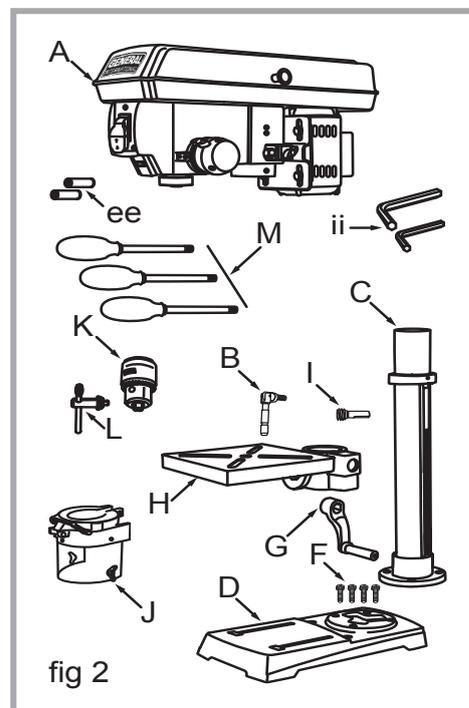
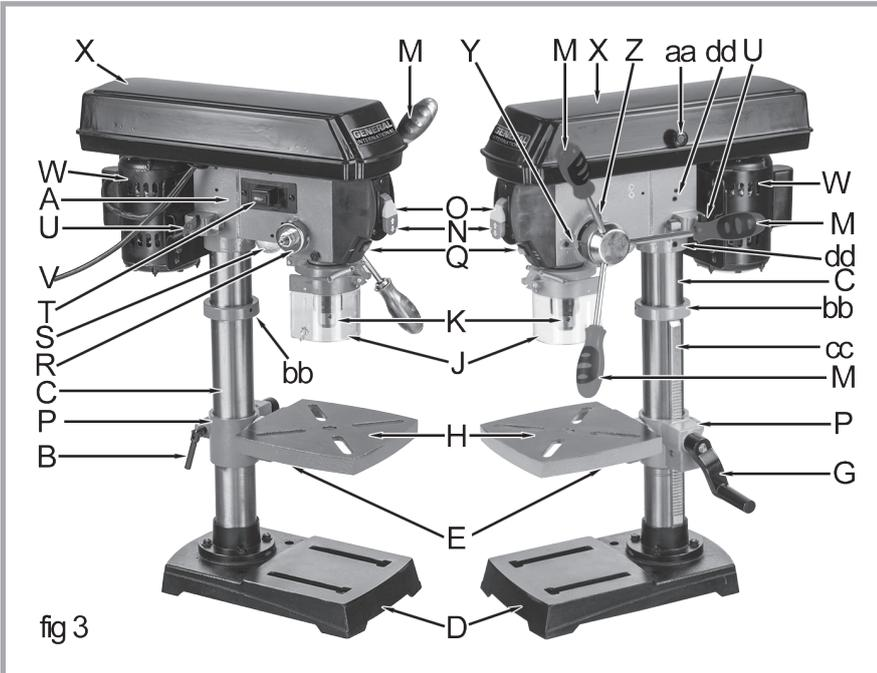

fig 2
fig 3
Separate all parts from the packing materials and check carefully against fig. 2 and the list below.
1. Place the base (D, fig 2 & 3) on the floor.
2. Place the column tube (C, fig 2 & 3) on the base with the support collar at the bottom, the column ring (bb, fig 3) at the top and the rack (cc, fig 3) running between them. Align the column support holes with the base holes.
4. Insert the rack (bb, fig 3) into the vertical groove of the table support. Make sure worm gear driven by the just-installed worm shaft on the inside of the table support is engaged by the teeth of the rack.
9. Slide the table support crank handle (G, fig 2 & 3) onto the worm shaft protruding from the side of the table support. Fasten it with the set screw, making sure the set screw is aligned with the flat of the shaft and as close to the table support as possible. Tighten the set screw.
10. Orient the table in the same direction as the base, and tighten the table support lock handle (B, fig 2 & 3).
1. Lift the drill press head assembly (A, fig 2 & 3) carefully and slide the mounting hole of the drill press head over the top of the column. Be sure the head is seated properly on the column.
3. Using a 4 mm hex (Allen) key, fasten the head assembly in place by tightening the head lock set screws (dd, fig 3) in the right side of the head casting.
4. Screw the three feed handles (M, fig 2 & 3) into the the threaded holes in the hub. Instead of using the knobs for leverage and possibly stripping them, use a wrench on the flats at the threaded ends of the handles to tighten, but take care to fasten them only hand tight.
5. Install an M5 x 12 pan head screw from the inside of the pulley cover through the hole and attach the knob (aa, fig 3) to the outside.
1. Clean out the tapered hole in the chuck (K, fig 2 & 3), removing any grease, anti-rust coating or dirt you find.
6. Clamp the chuck safety guard (J, fig 3) around the lower exposed part of the quill tube. Do not over-tighten.
1. Locate the laser switch (T, fig 3) on the left side of the head assembly.
1. Open the belt & pulley cover (X, fig 2 & 3)
1. Raise or lower the table by loosening the table support lock handle (B, fig 3) and turning the crank handle (G, fig 3) until the table is at the height desired.